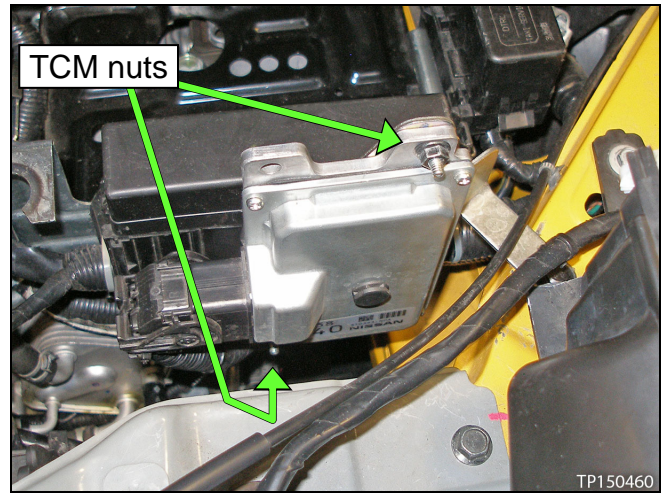
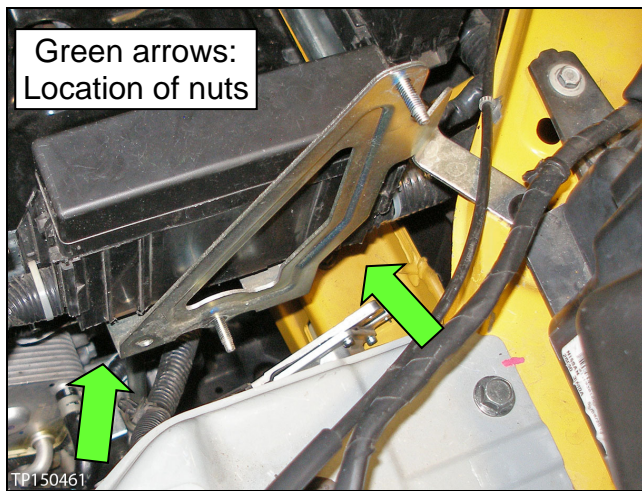

Figure 6
Figure 7
- a. Unfasten the TCM from its bracket (see Figure 6).
- b. Remove the seven (7) battery tray nuts and bolts.
- Two nuts are hidden, but accessible, under the front relay box (see Figure 7).